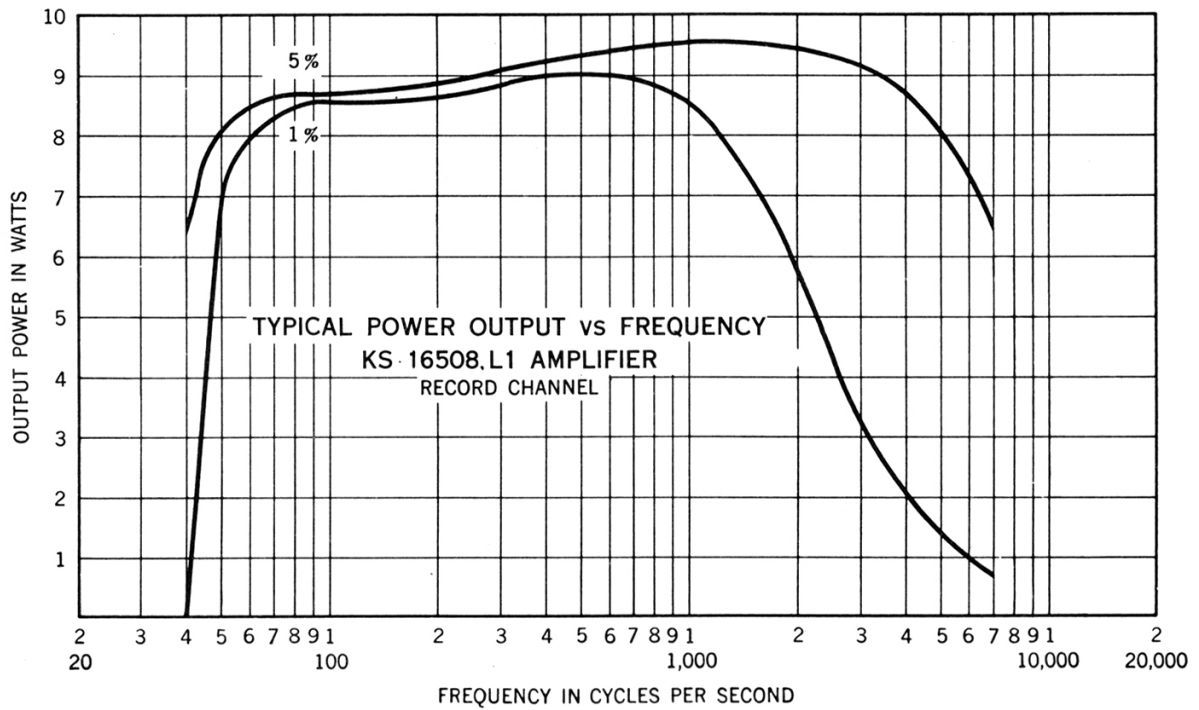

Fig. 6 – Output Power vs. Frequency
7.03 Fig. 6 shows the output power versus frequency characteristics of the record channel for 1% and 5% distortion.